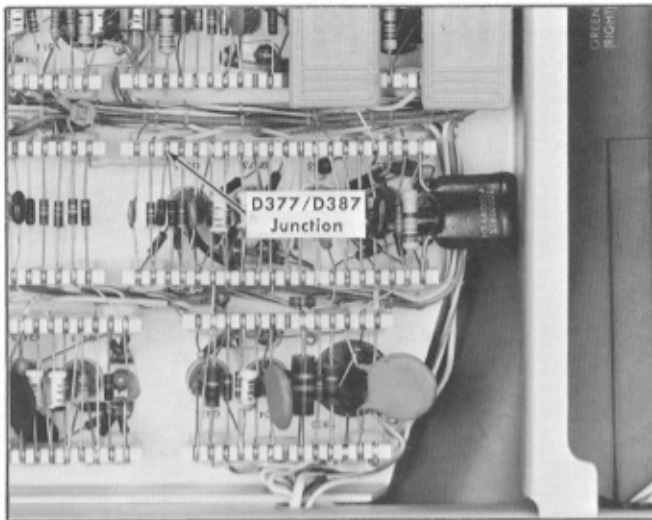

Fig. 6-30. Location of D377/D387 junction.
- e. Connect a  $1\times$  probe from the appropriate Trigger Input connector of the test oscilloscope to the junction of D377 and D387 (see Fig. 6-30).